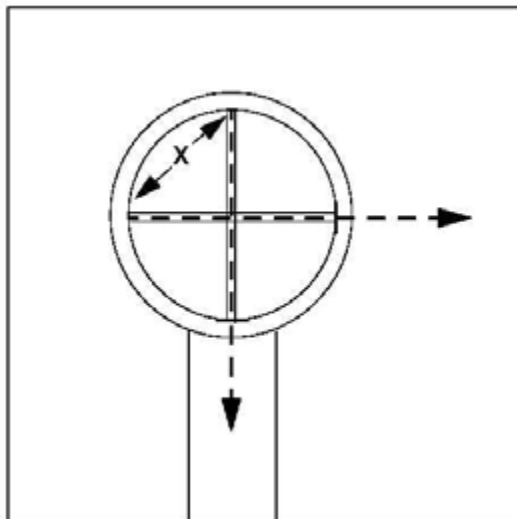

Fig. 2: Laser light fan beams
- Turn the diodes in the holder until the laser light fan beams are reflected on the I.I. as shown in (Fig. 2 / p. 9). The laser light fan beams begin at (X/Fig. 2 / p. 9). This setting ensures that the laser light fan beams cross near the laser light localizer.